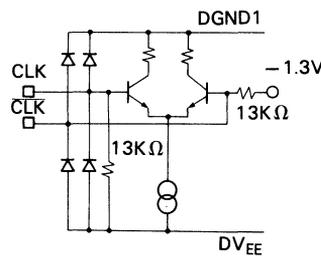

Fig. 2 CLK, $\overline{\text{CLK}}$ input
4. Clock Inputs (CLK, $\overline{\text{CLK}}$) (See Fig. 2.)